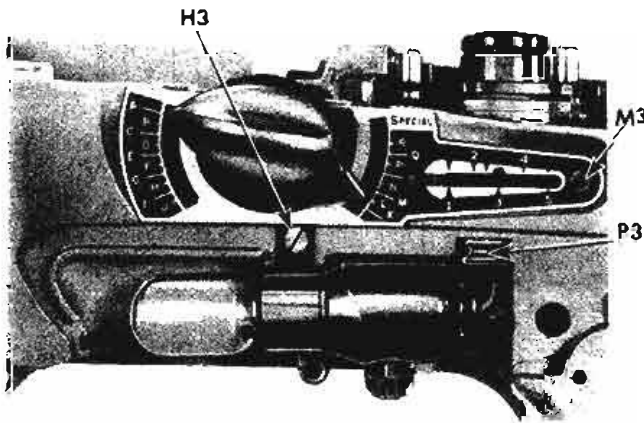
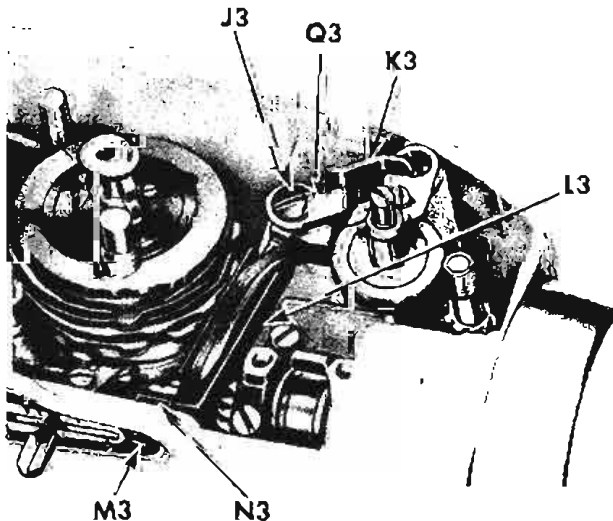

Fig. 54. Light Fixture
Fig. 55. Wiring at Top of Arm
2. Remove screw H3, Fig. 54, allowing socket to hang free from arm.
5. Remove screw J3, Fig. 55, and remove bobbin winder engaging lever assembly K3 with oil shield L3.
1. Insert light lead through rubber grommet P3, Fig. 54 and up into arm of casting. Guide light lead down through cavity Q3, Fig. 55.
3. Replace light lead clip N3, Fig. 55 and fasten with screw M3.
5. Replace light socket and fasten with screw H3, Fig. 54.